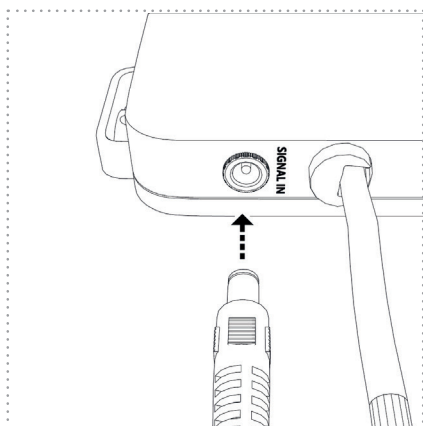

Figure 23
- Then plug the connector of the signal cable into the designated socket on the UV unit (Figure 23).